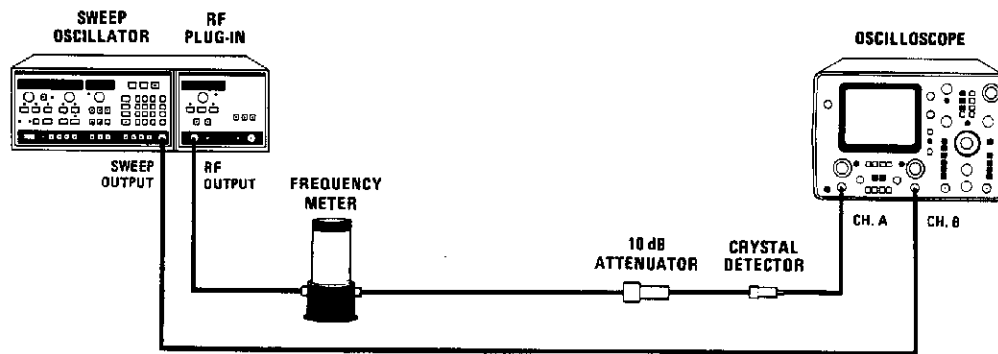

Figure 5-31. Band Overlap Adjustment Test Setup
1. Connect the equipment as shown in Figure 5-31 with the HP 536A Frequency Meter in the test setup. Allow the equipment to warm up for one hour.